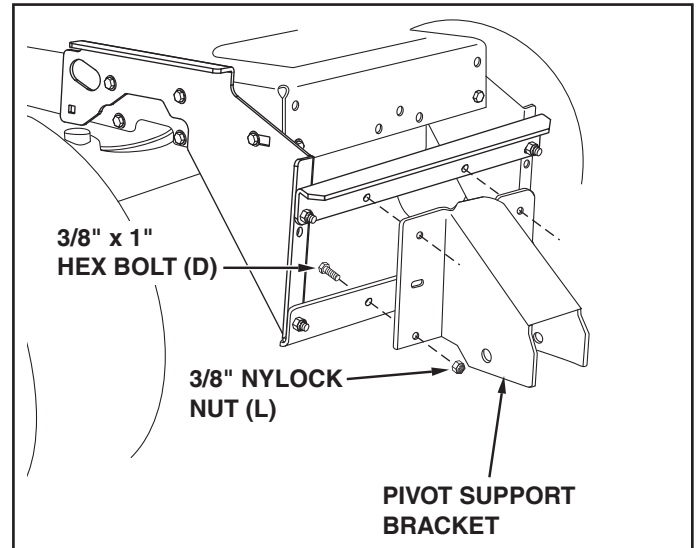

FIGURE 10
STEP 10: (SEE FIGURE 10)
- Assemble the pivot support bracket to the angle support brackets using four 3/8" x 1" hex bolts (D) and four 3/8" nylock nuts (L). **Do not tighten yet.**